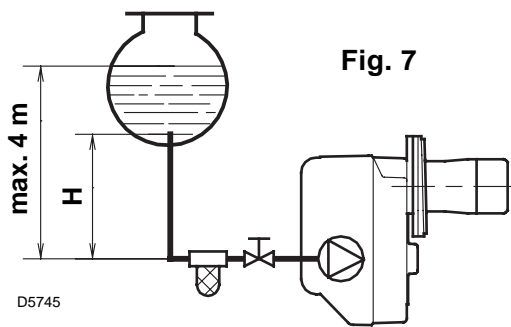
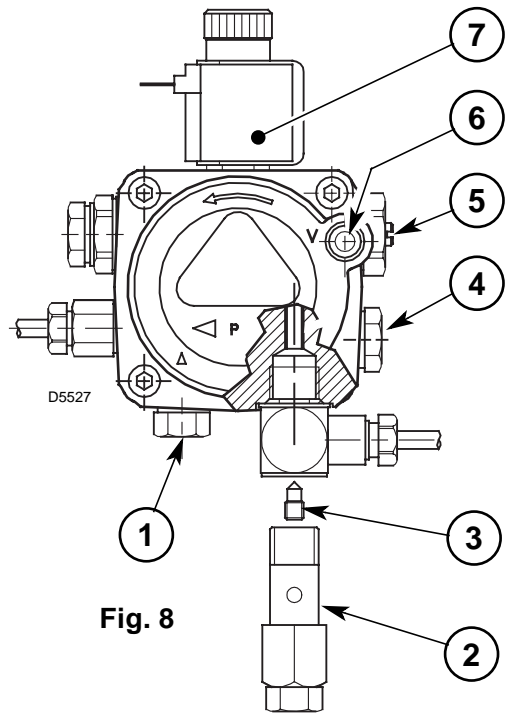

Fig. 7
Fig. 8
- The pump is designed to allow working with two pipes. In order to obtain one pipe working it is necessary to unscrew the pin (2), remove the by-pass screw (3) and then screw again the pin (2), (see fig. 8).
On the system in fig. 7 it is sufficient to loosen the suction gauge connection (6, fig. 8) and wait until oil flows out.